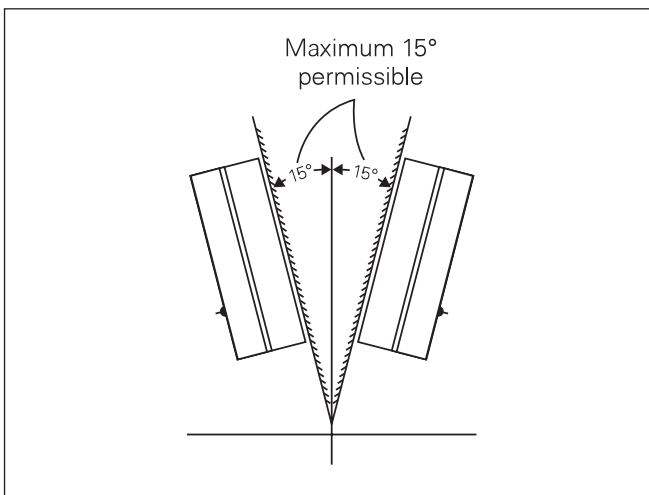

Fig. 4: Maximum permissible mounting position from vertical plane
- Mount the starter on a vertical wall/ plate free from vibrations with proper nuts and bolts. Refer Fig. 8 for mounting dimensions and Fig. 4 for permissible mounting position.